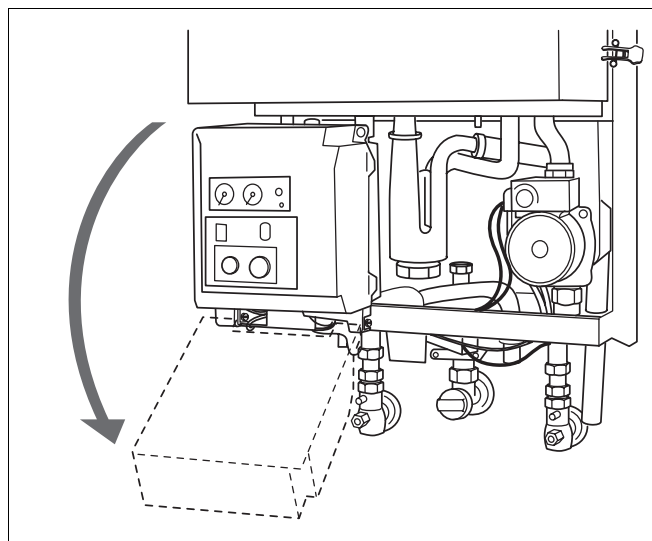

Fig. 88 Swivel UBA housing downwards
- Swivel the UBA housing downwards (fig. 88).